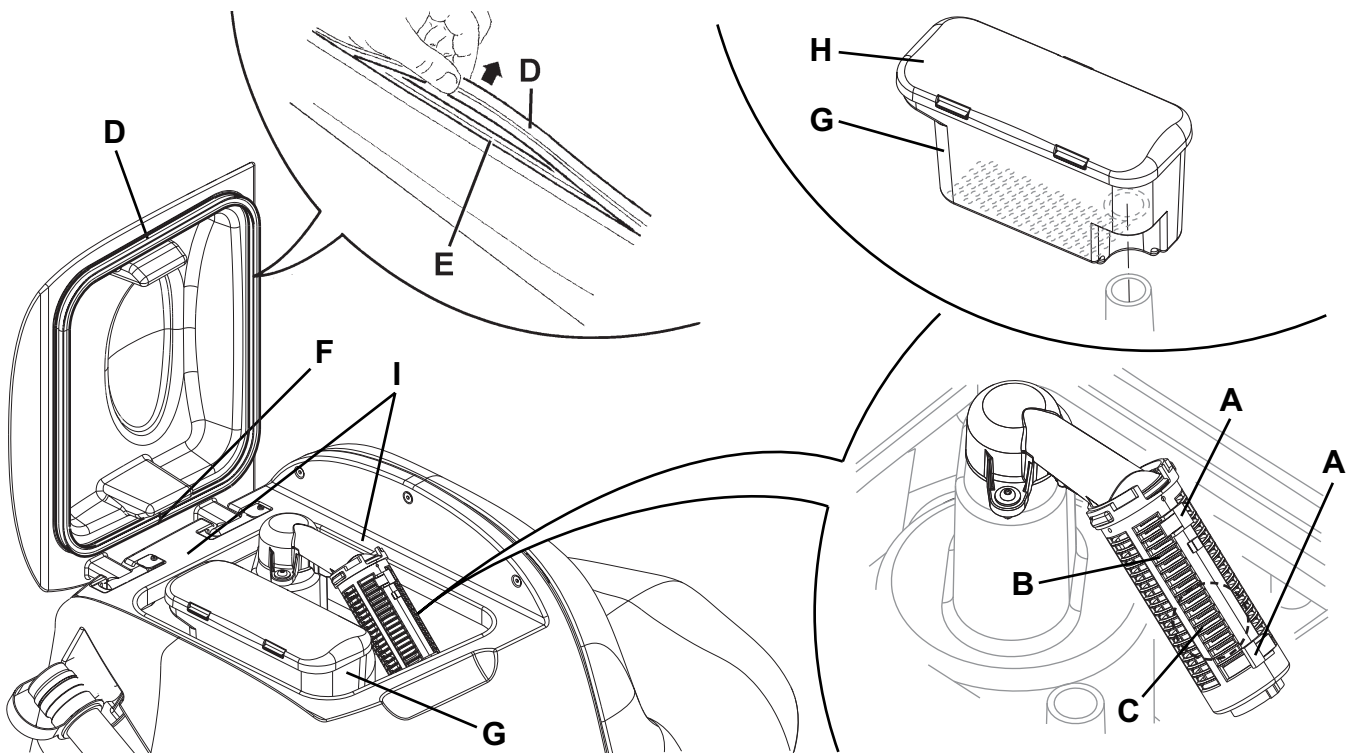

Figure 7
5. Clean the vacuum grid (27), release the fasteners (A, Fig. 7), open the grid (B) and recover the float (C) then clean it carefully and reinstall it.
6. Clean the container with debris collection grid (26), remove the container (G), remove the cover (H), then clean carefully and reinstall the vacuum hose.
7. Check the tank cover gasket (D) for integrity.